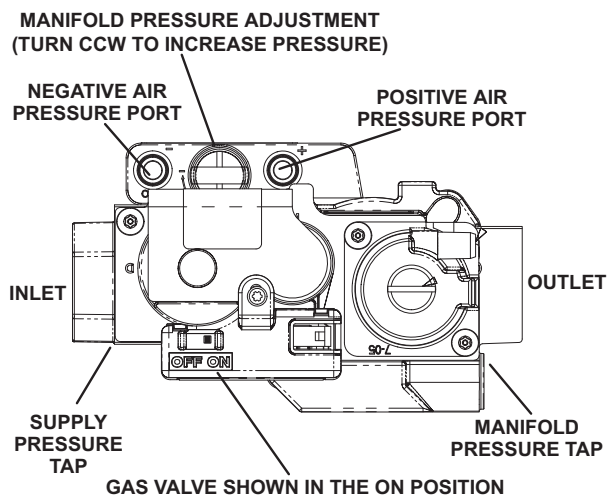

FIGURE 35
- 5 - Move gas valve switch to **OFF**. See FIGURE 34 or FIGURE 35.
- 6 - Move gas valve switch to **ON**. See FIGURE 34 or FIGURE 35.